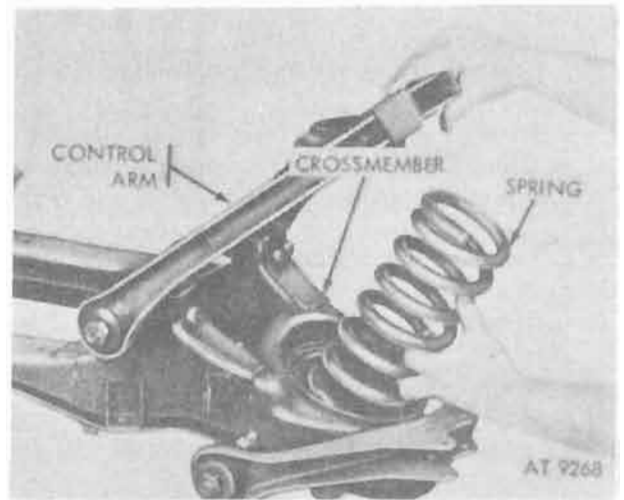

Figure 10-24. Right coil spring, lower control arm and crossmember.
a. Remove right and left coil spring from crossmember (fig. 10-24).